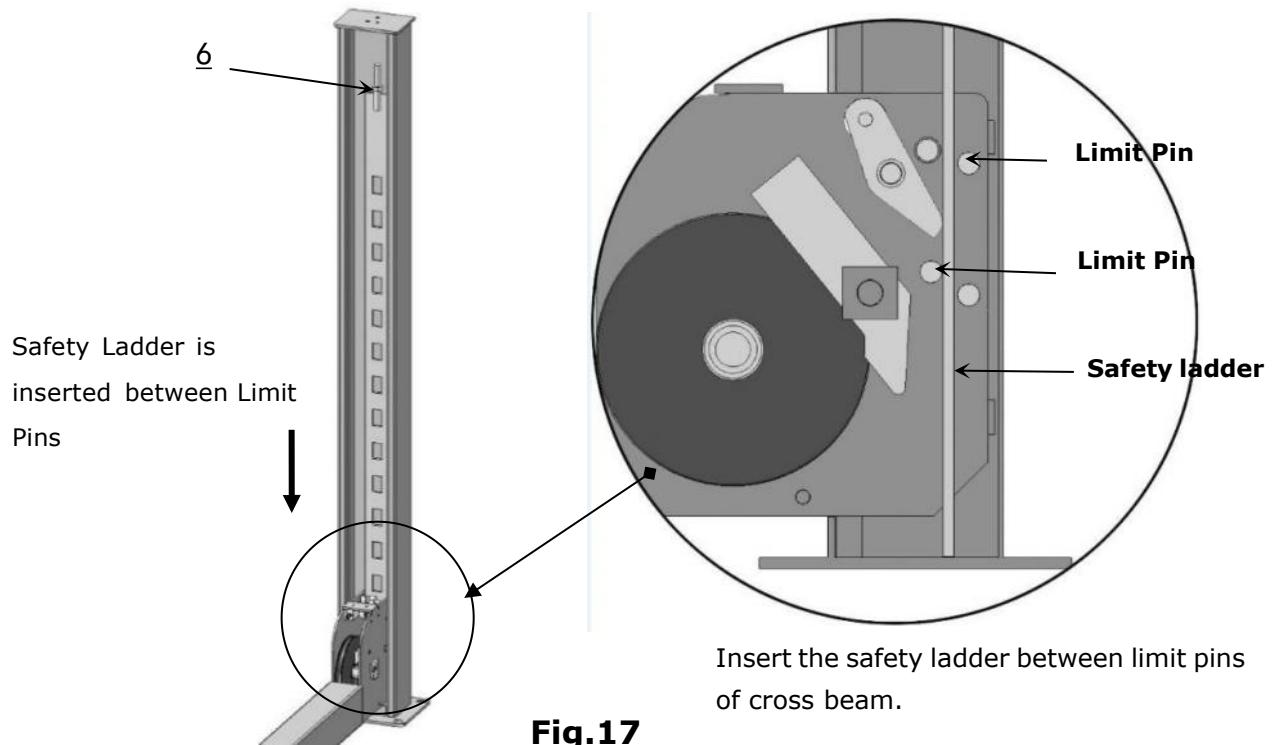

Fig.17
1. Remove the four upper nuts of the safety ladders, and then adjust the four lower nuts to be at the same position, then install the safety ladders (See Fig. 17) .